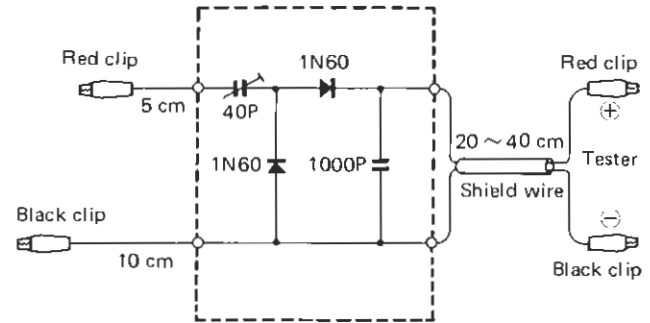

Fig. 1
(3) Adjusting procedure (Refer to Fig. 1)